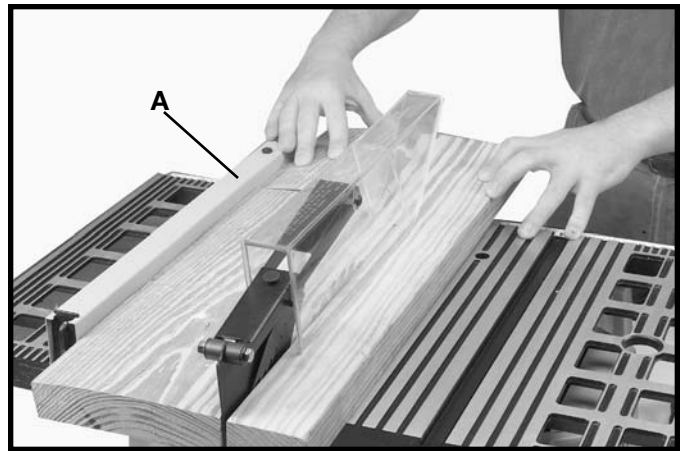
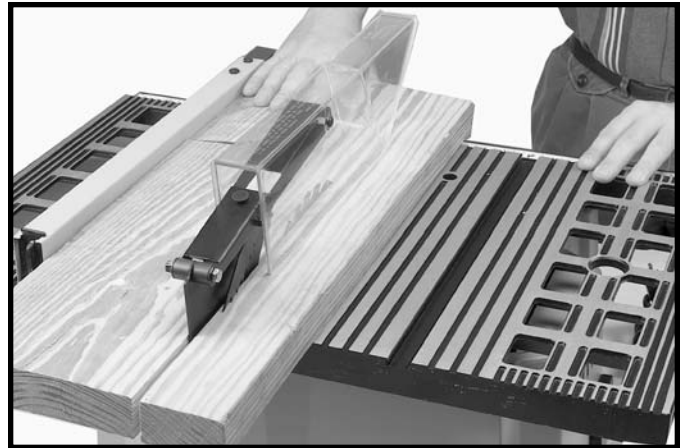

Fig. 37
Fig. 38
Ripping is the operation of making a length-wise cut through a board, as shown in Fig. 37, and the rip fence (A) is used to position and guide the work. One edge of the work rides against the rip fence while the flat side of the board rests on the table. Since the work is pushed along the fence, it must have a straight edge and make solid contact with the table. The saw guard must always be used. The guard has anti-kickback fingers to prevent kickback and a splitter to prevent the saw kerf from closing and binding the blade.
Start the motor and advance the work, holding it down against the fence. Never stand in the line of the saw cut when ripping. Hold the work with both hands and push it along the fence and into the saw blade as shown in Fig. 37. After the workpiece is on the table the work can then be fed through the saw blade with one hand, as shown in Fig. 38. After the work is beyond the saw blade and anti-kickback fingers the feed can continue to the end of the table, after which the work is lifted and brought back along the outside edge of the fence. The cut-off stock remains on the table or tilts up slightly and is caught by the rear end of the guard or slides off the table to the floor. If the cut-off stock remains on the table it is not touched with the hands until the saw blade is stopped, unless it is a large piece allowing safe removal. When ripping boards longer than three feet, it is recommended that a work support be used at the rear of the saw to keep the workpiece from falling off the saw table.